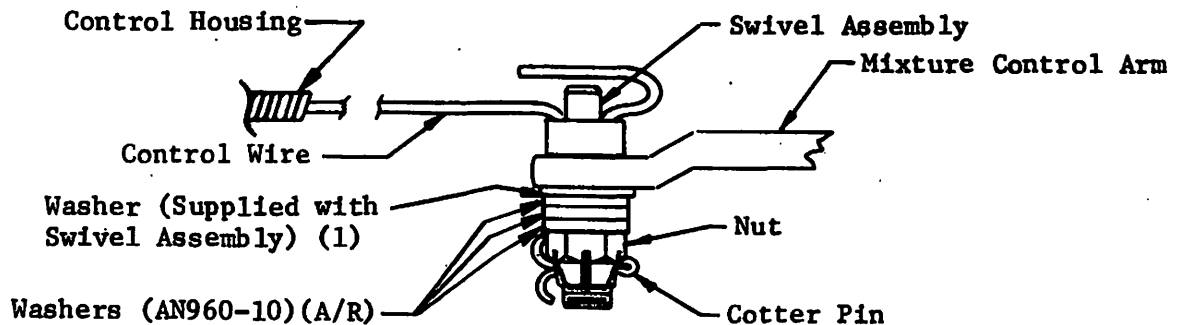

Figure 6-3. Mixture Control Installation
See Item 3 on Service Letter No. 74-4 for aircraft not equipped with swivel assembly illustrated in Figure 6-3.
- f. Bend mixture control wire as shown on Figure 6-3 and install the cotter pin. Check swivel freedom in arm.